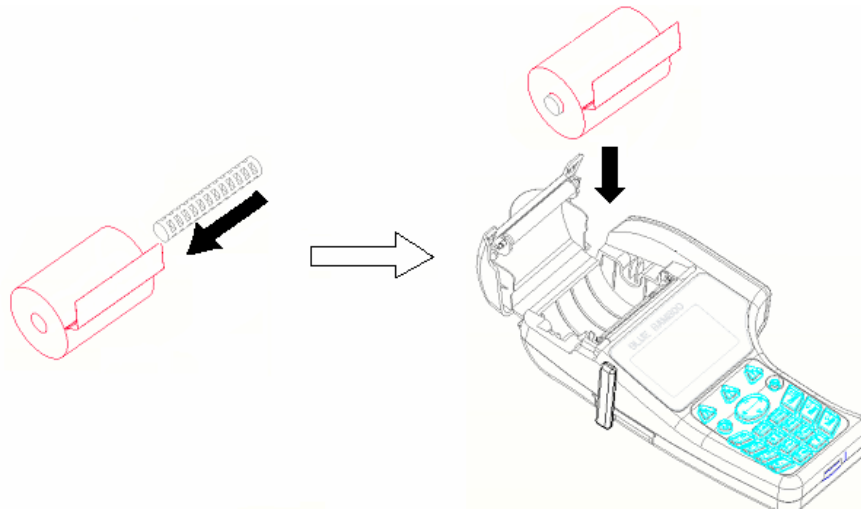

Figure 4 Open the print cover
1. Lift open the paper door (Figure 4).